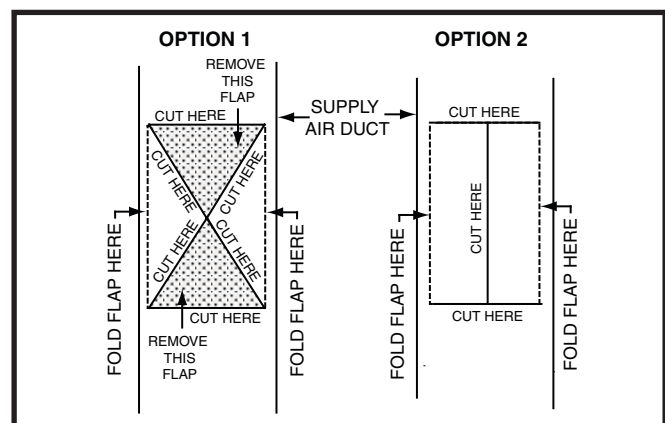

Figure 9. Narrow Air Duct Openings
1. Score and cut the top of the supply air duct as indicated in Option 1 or Option 2 (Figure 9). With Option 1 choice, cut out the metal from the shaded area.